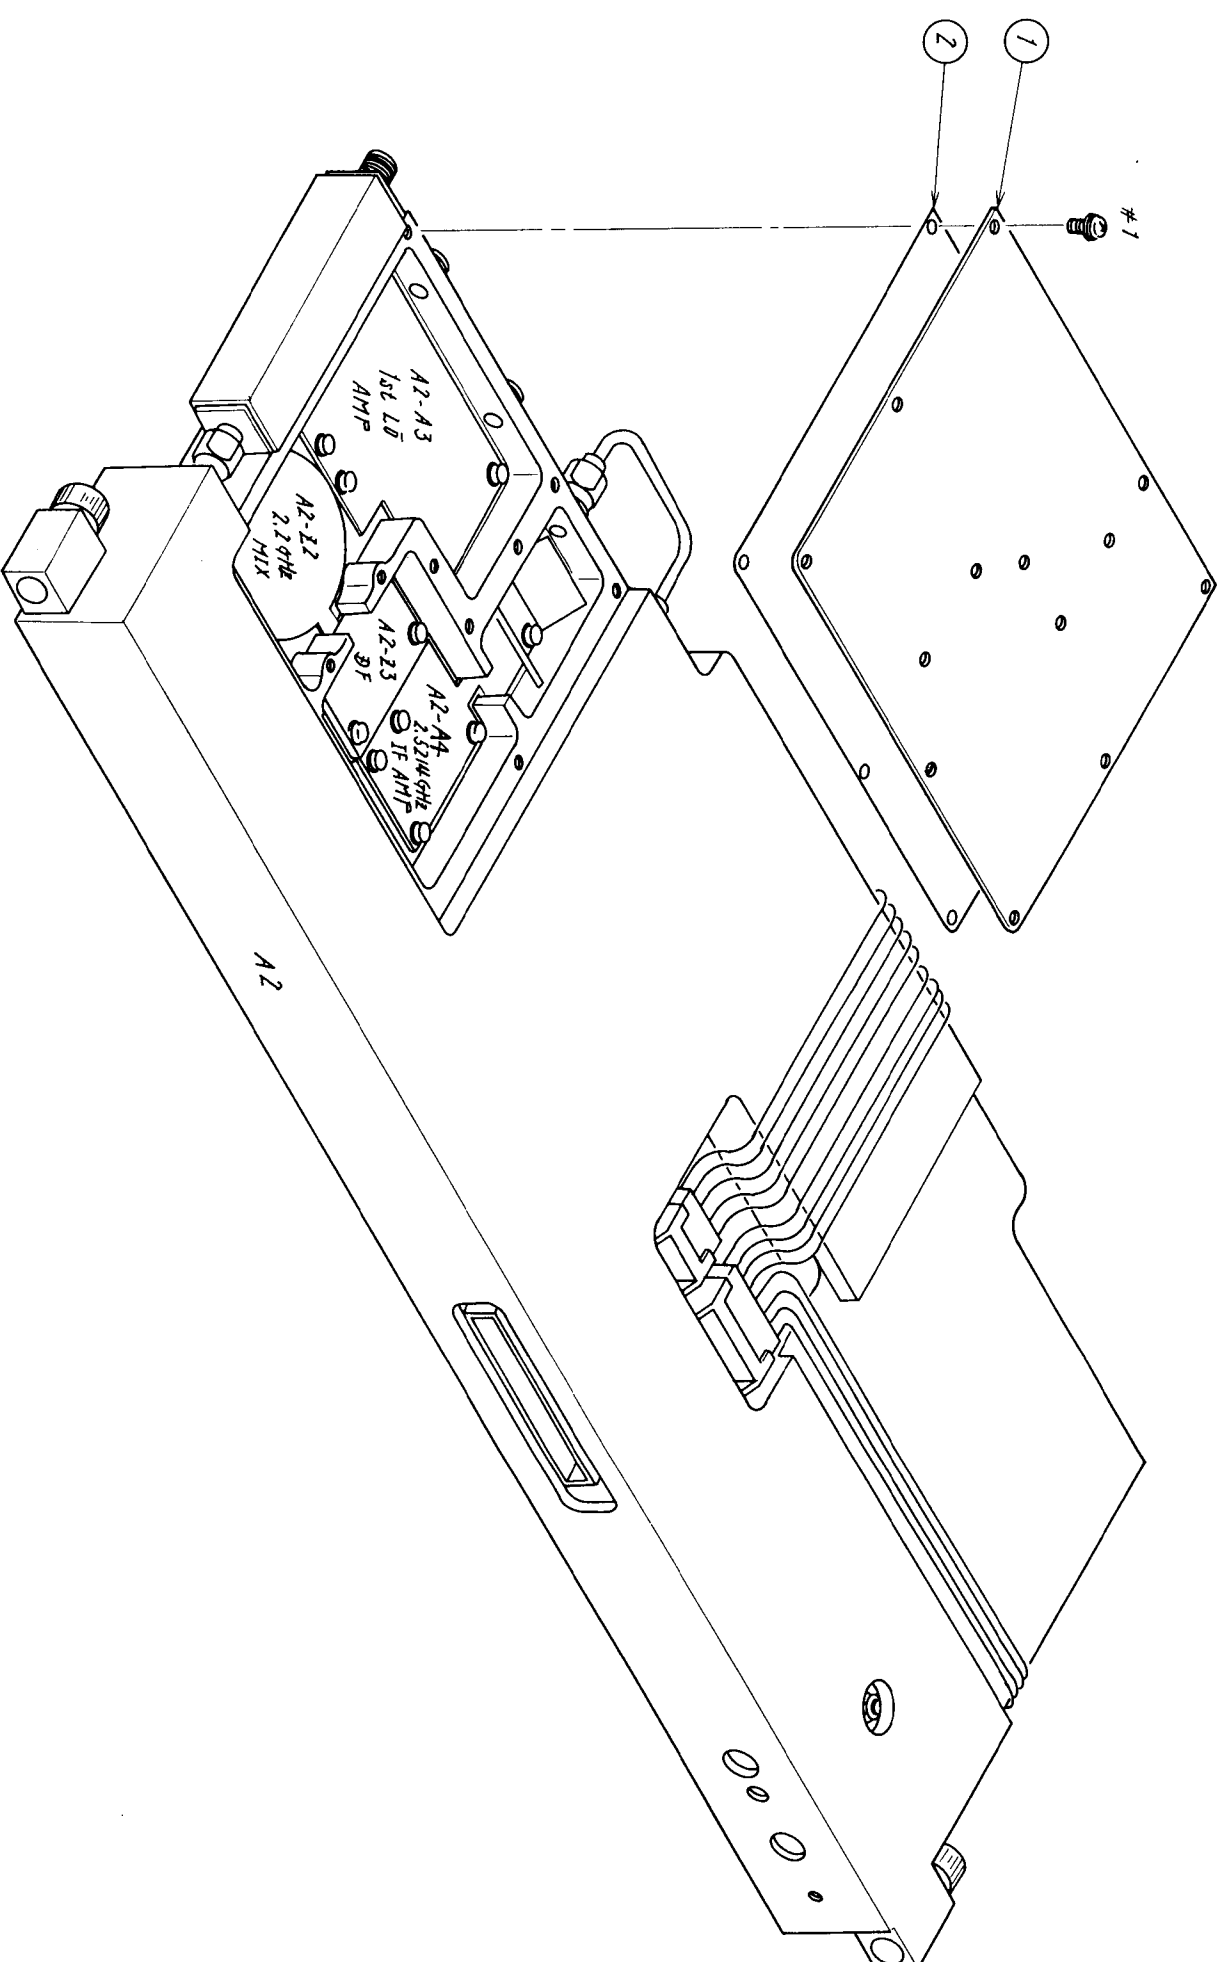

Fig. 5-12 A2: 2 GHz CONVERTER
(5) Disassembling A2-A3, A4, Z2 and Z3 (Fig. 5-12)